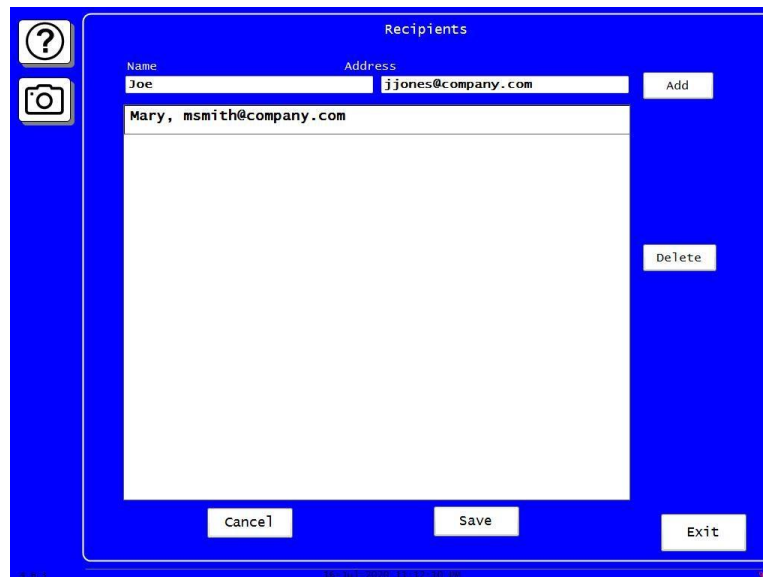

Figure 3-22. E-mail Recipients
1. In the Messaging Setup screen (see previous section), press Recipient List. The Recipients screen appears, Figure 3-22.